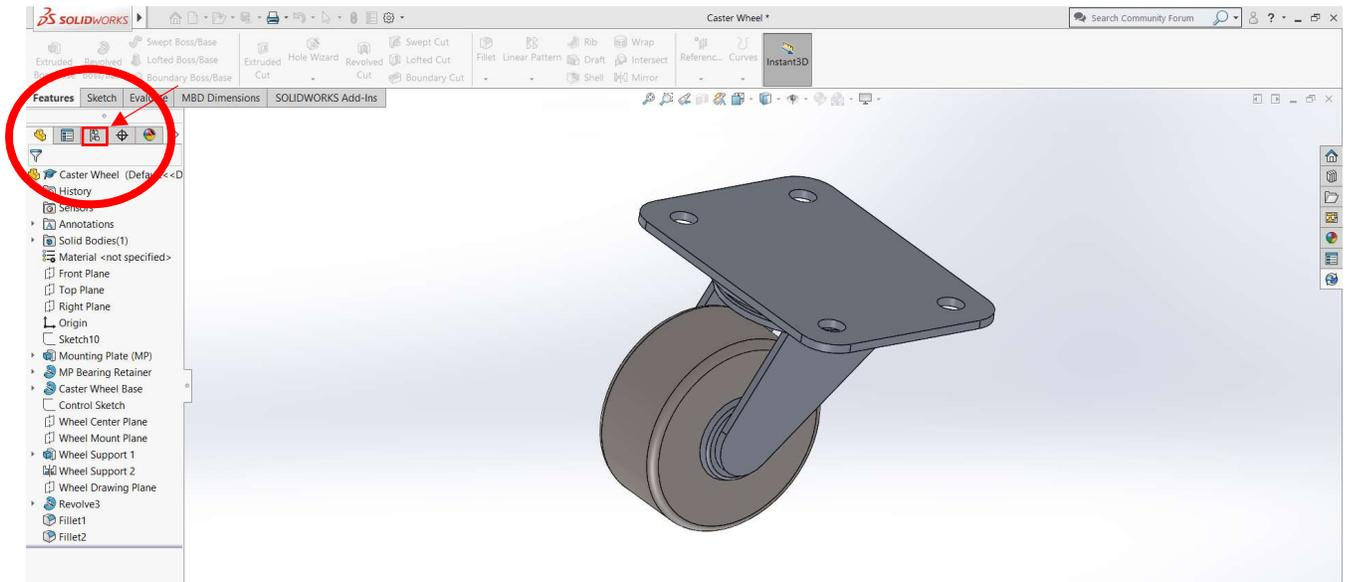

Fig. 2. Image of SolidWorks workspace, pointing to the ConfigurationManager tab.
3. Select the Configuration Manager tab in the top left corner of the project workspace (Fig. 2).